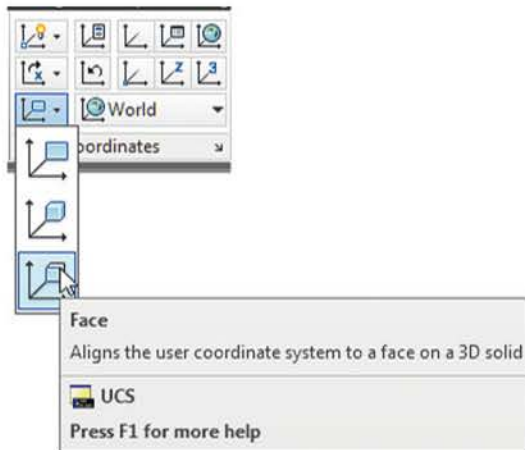

Fig. 18.23 The Face icon from the Home/Coordinates panel
4. *Click* the **Face** tool icon in the **Home/Coordinates** panel (Fig. 18.23) and place the 3D model in the ucs plane shown in Fig. 18.24, selecting the sloping face of the extrusion for the plane.